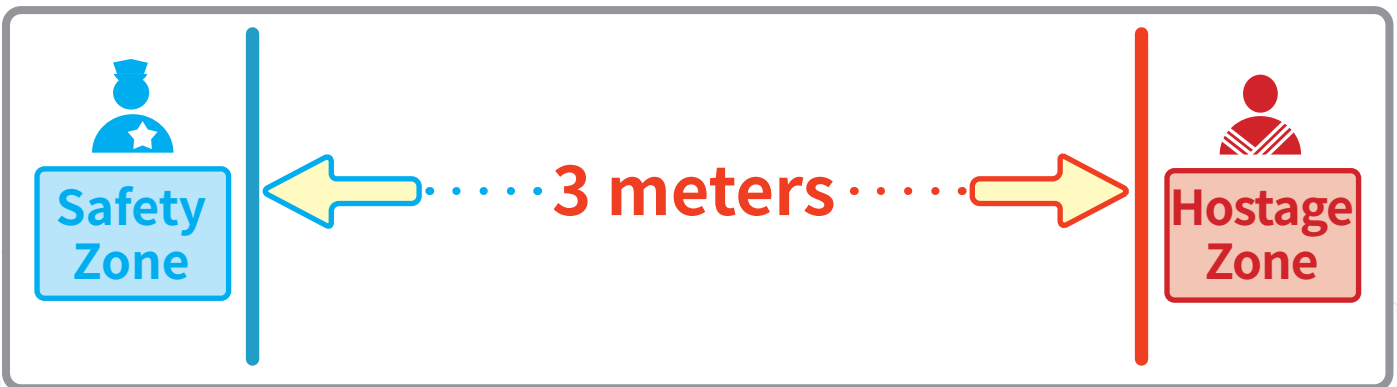

Figure 9-4. Description of the site for competition two.
(1) Competition area is as shown in Figure 9-4 below. During the competition, two contestants must stand respectively on the left side of the safety zone's blue line and the right side of the hostage zone's red line to carry out the rescue mission. The distance between the two lines is 3 meters.